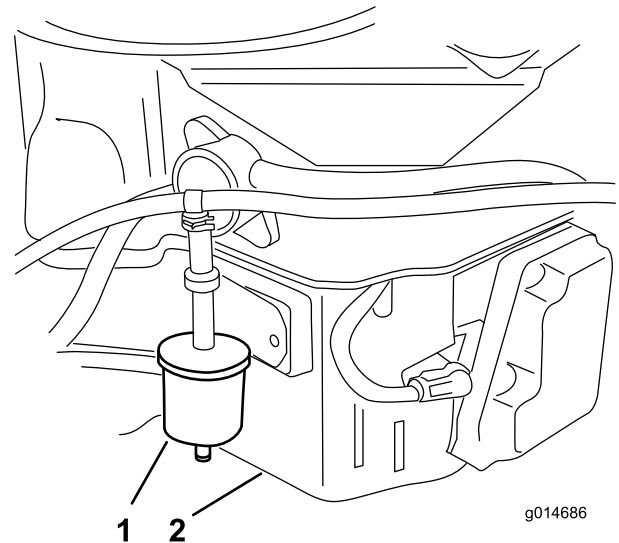

Figure 36
3. Remove the existing fuel-vent filter (Figure 36).